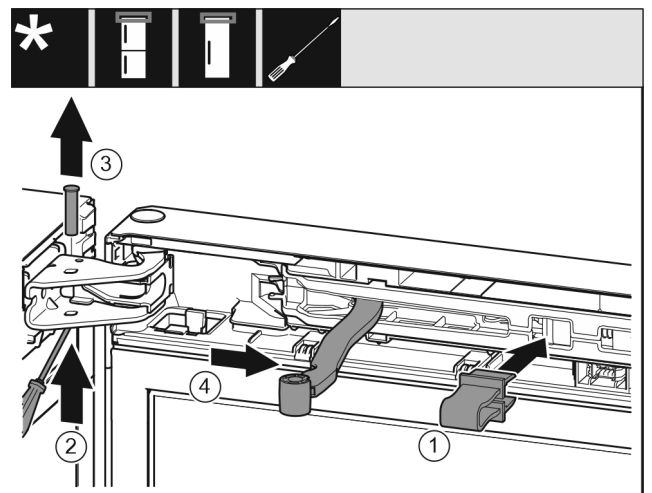

Fig. 11
- ▶ Latch safeguard Fig. 11 (1) into opening.
- ▶ Slide out the bolt Fig. 11 (2).
- ▶ Remove the bolt Fig. 11 (3) upwards.
- ▶ Turn the joint Fig. 11 (4) towards the door.